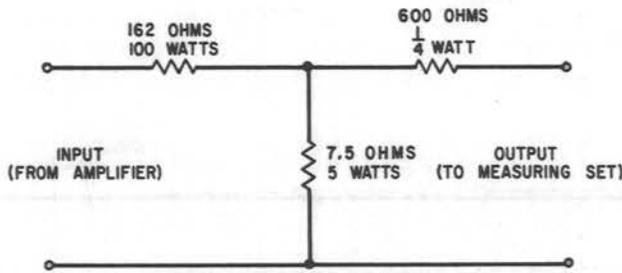

Fig. 1 — Suggested Output Pad Arrangement
**2.10** Fig. 1 shows a suggested arrangement of the output pad referred to in Paragraph 2.08. This arrangement utilizes values of resistors which should not be difficult to obtain locally. The loss of this pad will be approximately 38.8 db when connected between the amplifier output and a 600-ohm transmission measuring set. Resistors used in constructing the pad should be individually selected so as to be within  $\pm 1.0\%$  of the values shown. In the case of the 162-ohm and 7.5-ohm resistors it may be necessary to obtain adjustable units of higher value and set them for the value shown, using a precision resistance bridge. A W. E. Co. type 106A resistor can be obtained in the 600-ohm value. Resistor values have been chosen so that when gain tests are made about 1 milliwatt of power (0 dbm) will be delivered to the transmission measuring set. When the maximum power output capability of the amplifier is tested the transmission measuring set will receive about 10 milliwatts of power (+10 dbm).